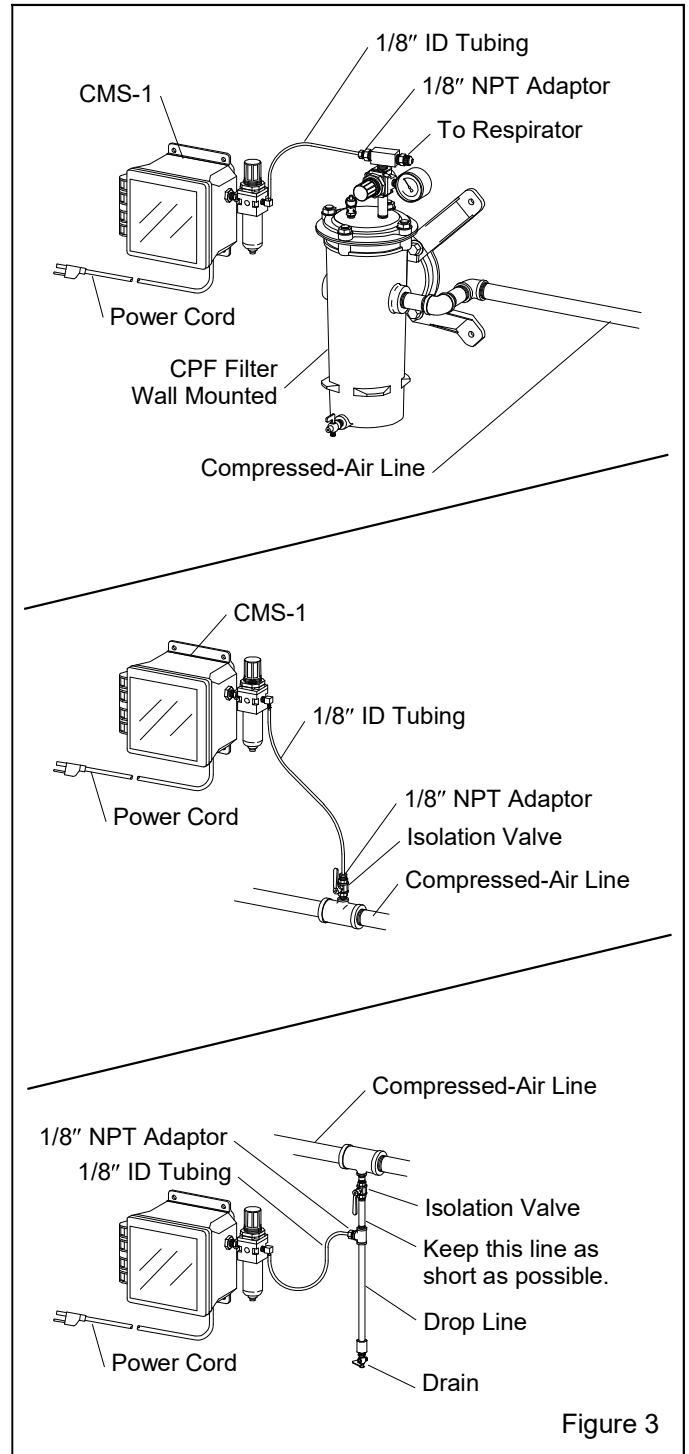

Figure 3
2.3.2.3 Place a tee in the air-supply line, and use a bushing or other adaptor, to connect the 1/8" NPT tube adaptor supplied. Install an isolation valve at the source to enable depressurization for service and to remove the monitor. Typical setups are shown in Figure 3.